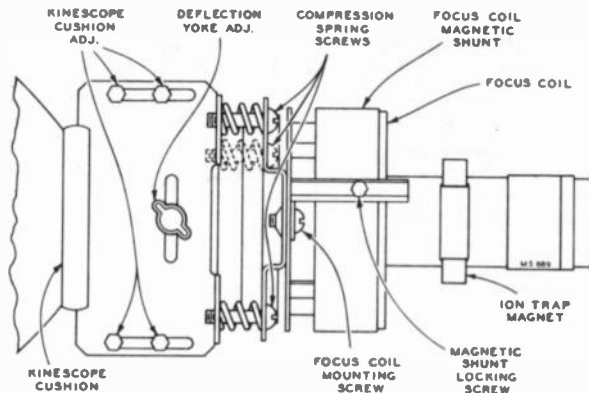

Figure 2—Yoke and Focus Coil Adjustments
**ION TRAP MAGNET ADJUSTMENT.**—Set the ion trap magnet approximately in the position shown in Figure 2, and with the part number on magnet towards the rear of the chassis. Starting from this position immediately adjust the magnet by moving it forward or backward at the same time rotating it slightly around the neck of the kinescope for the brightest raster on the screen. Reduce the brightness control setting until the raster is slightly above average brilliance. Adjust the focus control (R191 on the chassis rear apron) until the line structure
The focus coil is provided with a magnetic shunt in the form of a metal sleeve as shown in Figure 2. If the receiver focuses with the focus control near the end of its range, loosen the shunt locking screw and slide the shunt backward or forward until focus occurs in the center range of the focus control.